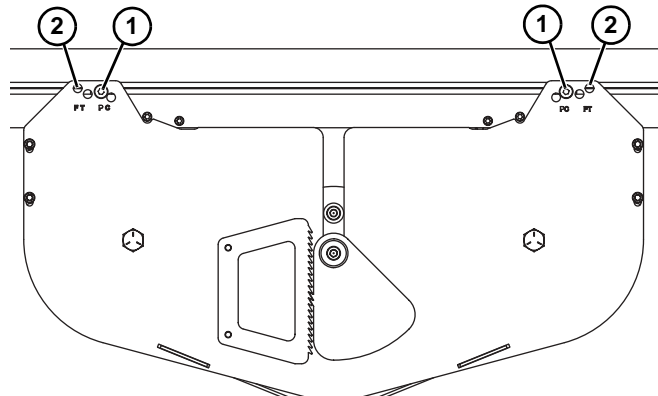

Figure 65
- For standard belt use these holes (Figure 65, item 1).
- For friction insert belt use these holes (Figure 65, item 2).